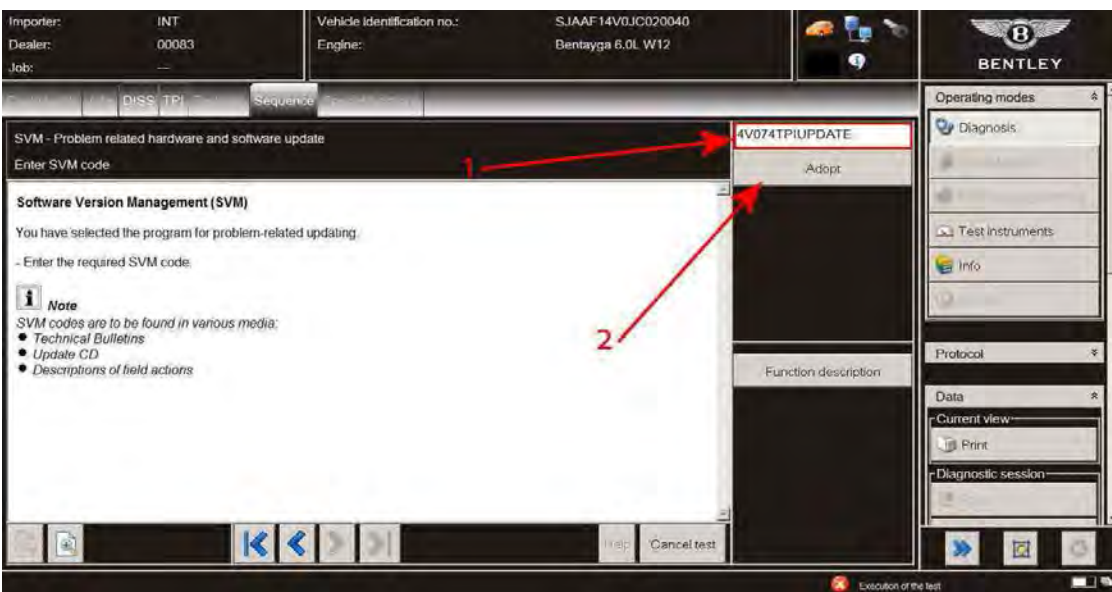

Figure 3
8. Referring to Figure 3 – At the SVM screen (1) enter the specific SVMcode 4V074TPIUPDATE and then select Adopt (2)